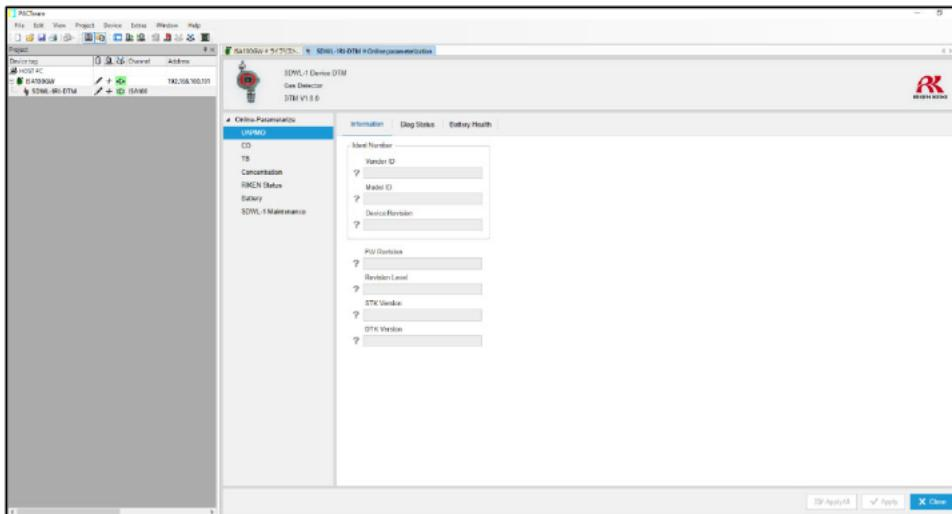

Figure 5-35 Online window
- ⑯ Once the DTM is launched, the window shown in Figure 5-35 below is displayed, and parameter loading starts automatically. Parameters can then be checked and configured.